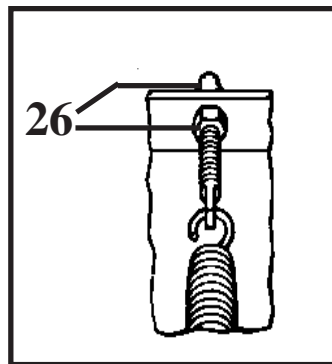

Figure 2
- a. Liberally coat Pivot Bolts (21) with chassis lubricant.
- b. Attach Pivot Bar (19) to Moldboard Assembly with Pivot Bolts (21).
- c. Attach Trip Springs (25) to Pivot Bar (19). Attach Eye Bolts (26) to Trip Springs (25) and Moldboard Assembly, making certain locknuts are positioned as shown in Figure 2.
- d. Make certain each Eye Bolt (26) is in a vertical position as shown in Figure 2 so that the Eye Bolt and Trip Spring (25) hinge properly when Moldboard Assembly trips.